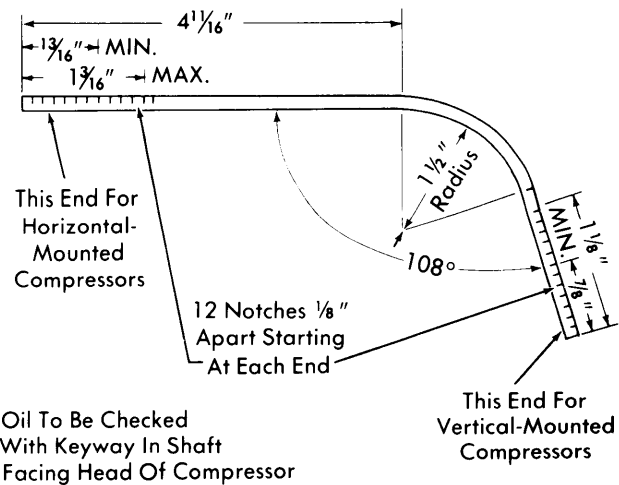

Fig. 5 York Compressor Oil Level Dipstick
2) Fabricate a suitable dipstick according to specifications (see Fig. 5). Insert appropriate end of dipstick into compressor and check oil level. Level on dipstick must be within specifications. Add clean refrigerant oil if necessary. Install a new "O" ring seal on filler plug.